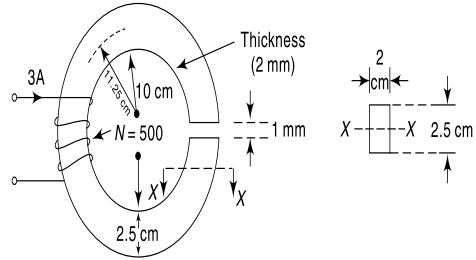

Fig. 3.26
3.39 A ring, made of steel has a rectangular cross-sectional area. The outer diameter of the ring is 25 cm while the inner diameter is 20 cm , the thickness being 2 cm . The ring has a winding of 500 turns and when carrying a current of 3 A , produces a flux density of 1.2 T in the air gap produced when the ring is cut to have an air gap of 1 mm length (Fig. 3.26). Find (a) the magnetic field intensity of the steel ring and in the air gap,